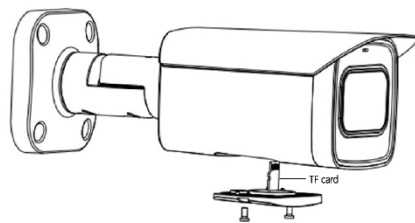

Figure 2-1 Installing TF card
1. Install TF card (optional): This series of cameras support TF card storage, unscrew the white cover at the bottom of the device and put the TF card. Install it into the card slot. If you need to remove the TF card, lightly press the TF card to eject it, as shown in Figure 2-1.
- 1. Separate the fixed cover and the base: first loosen the fixing screws, and take out the fixed cover, sphere and base in sequence, as shown in Figure 2-1.